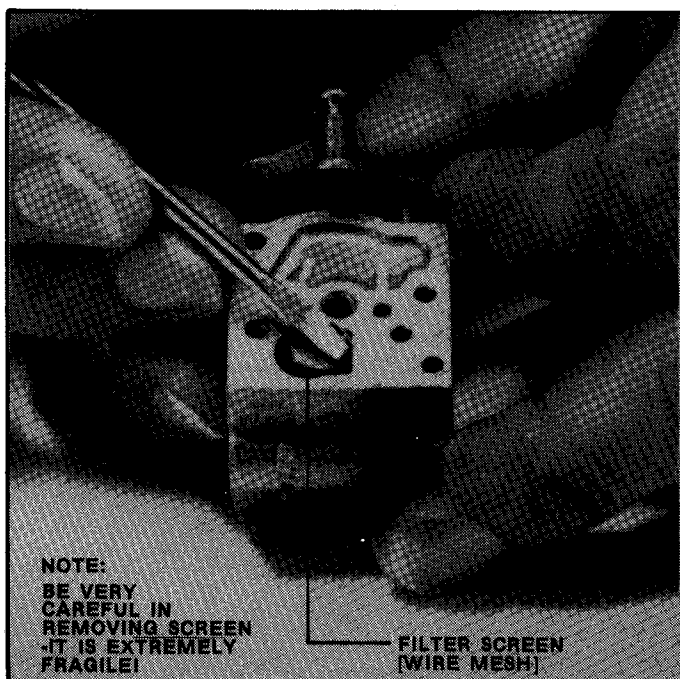

FIGURE 2.2
D. The filter screen can now be removed from the carburetor body using the sharp point of a needle or knife and working it against the inside edge in an upward motion. Do not pry between the outside edge and the carburetor body. This practice would result in deforming the filter screen. See Figure 2.2.